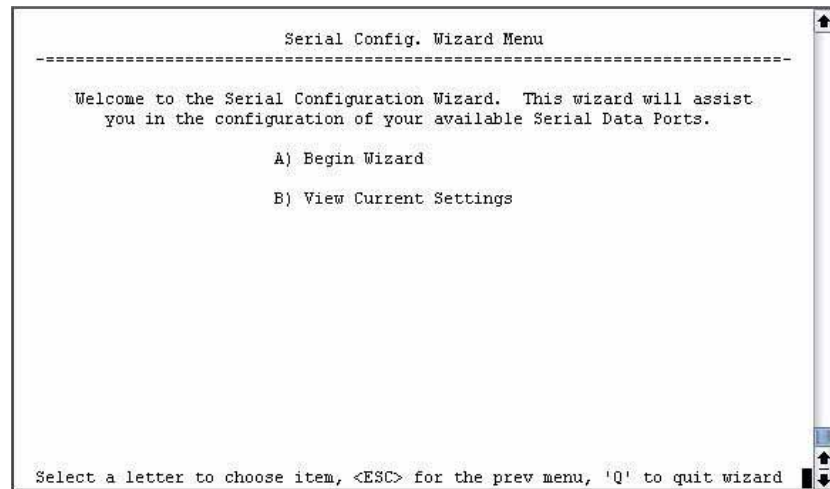

Figure 3-44. Configuration Wizard Opening Screen
1. From the Serial Configuration Wizard opening screen (Figure 3-44 on Page 81), select **A** to begin the wizard.